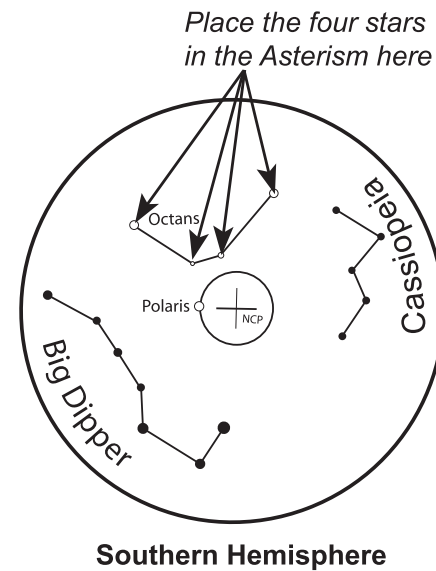

Fig. 2.3b
- Fig 2.3b shows the pattern in the field of view (FOV) of the polar scope. If the image appears blurred, rotate the knurled ring of the polar scope's eyepiece to focus.
- **For observing in Southern Hemisphere:** In the FOV of the polar scope, locate the 4 dim stars (Around Magnitude 5 to 6) which form the pattern like the “Octans” drawing in the polar scope (refer to Fig. 2.3b). Rotate the large knurled ring of the polar scope assembly to align the orientation of the “Octans” drawing to the 4 stars. Then use the jack screw and the azimuth adjustment knobs to move the 4 stars to the 4 small circles of the “Octans” drawing.
As the Polaris is not located exactly at the North Celestial Pole, we can see it orbits the North Celestial Pole in a polar scope. The large circle seen in the center of the pattern in Fig. 2.3b is a representation of the Polaris’ orbit around the North Celestial Pole. When performing the polar alignment process, it is necessary to determine the orientation of the Polaris on the circle. We can use the following 3 methods to get the orientation:
3. At the end of the initialization of the SynScan hand control, after entering the proper local longitude, latitude, date, time, and daylight-saving time, the SynScan hand controller will display the message: “Polaris Position in P.Scope=HH:MM”. Imagine the larger circle in Fig. 2.3b as a clock’s face with 12:00 at the top, with the current time pointing to the “HH:MM”. The orientation of the hour hand of the clock represents the orientation of the Polaris in the polar scope. Put the Polaris to the same orientation on the large circle to finish the polar alignment.